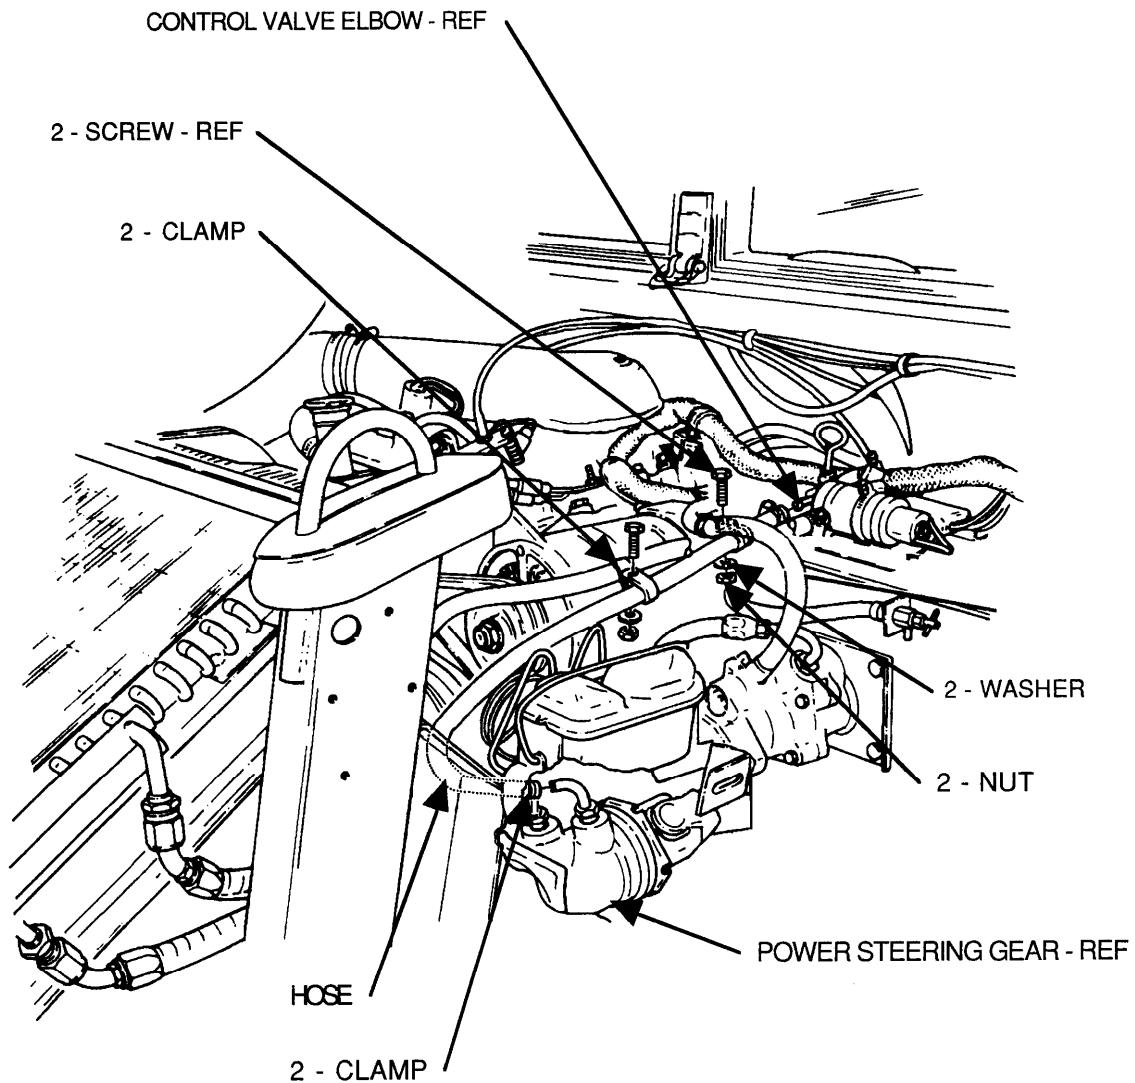

FIGURE 2
- (7) Remove two nuts, washers, screws, and clamps from power steering hoses as shown in figure 2.
- (8) Remove two clamps and hose from control valve elbow and steering gear as shown in figure 2.